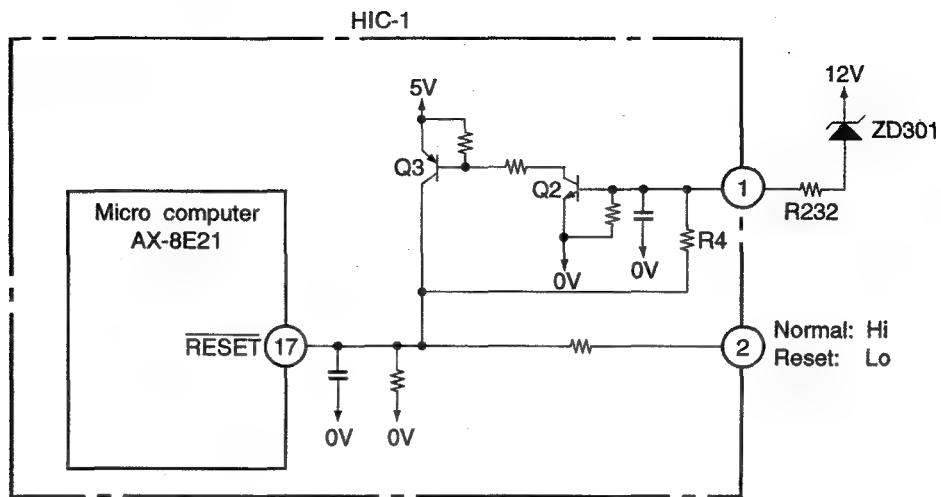
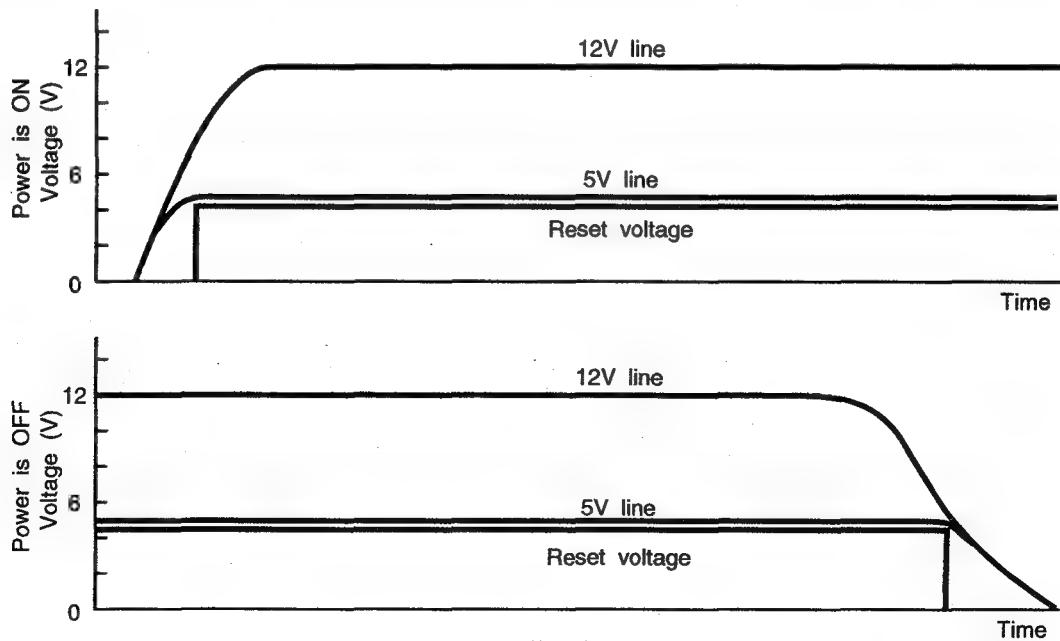

Fig. 11-1
Fig. 11-2
- Fig. 11-1 shows the reset circuit and Fig 11-2 shows waveform at each point when power is turned on and off.
- When power is turned on, 12V line and 5V line voltages rise and 12V line voltage reaches 7.2V (Zener voltage of ZD501), ZD501 is turned ON, Q2 and Q3 are turned ON and reset voltage input to pin (17) of microcomputer is set to Hi. By ZD501, reset voltage maintains input of pin (17) at Lo until V_{DD} of microcomputer rises to 5V to obtain operable status.